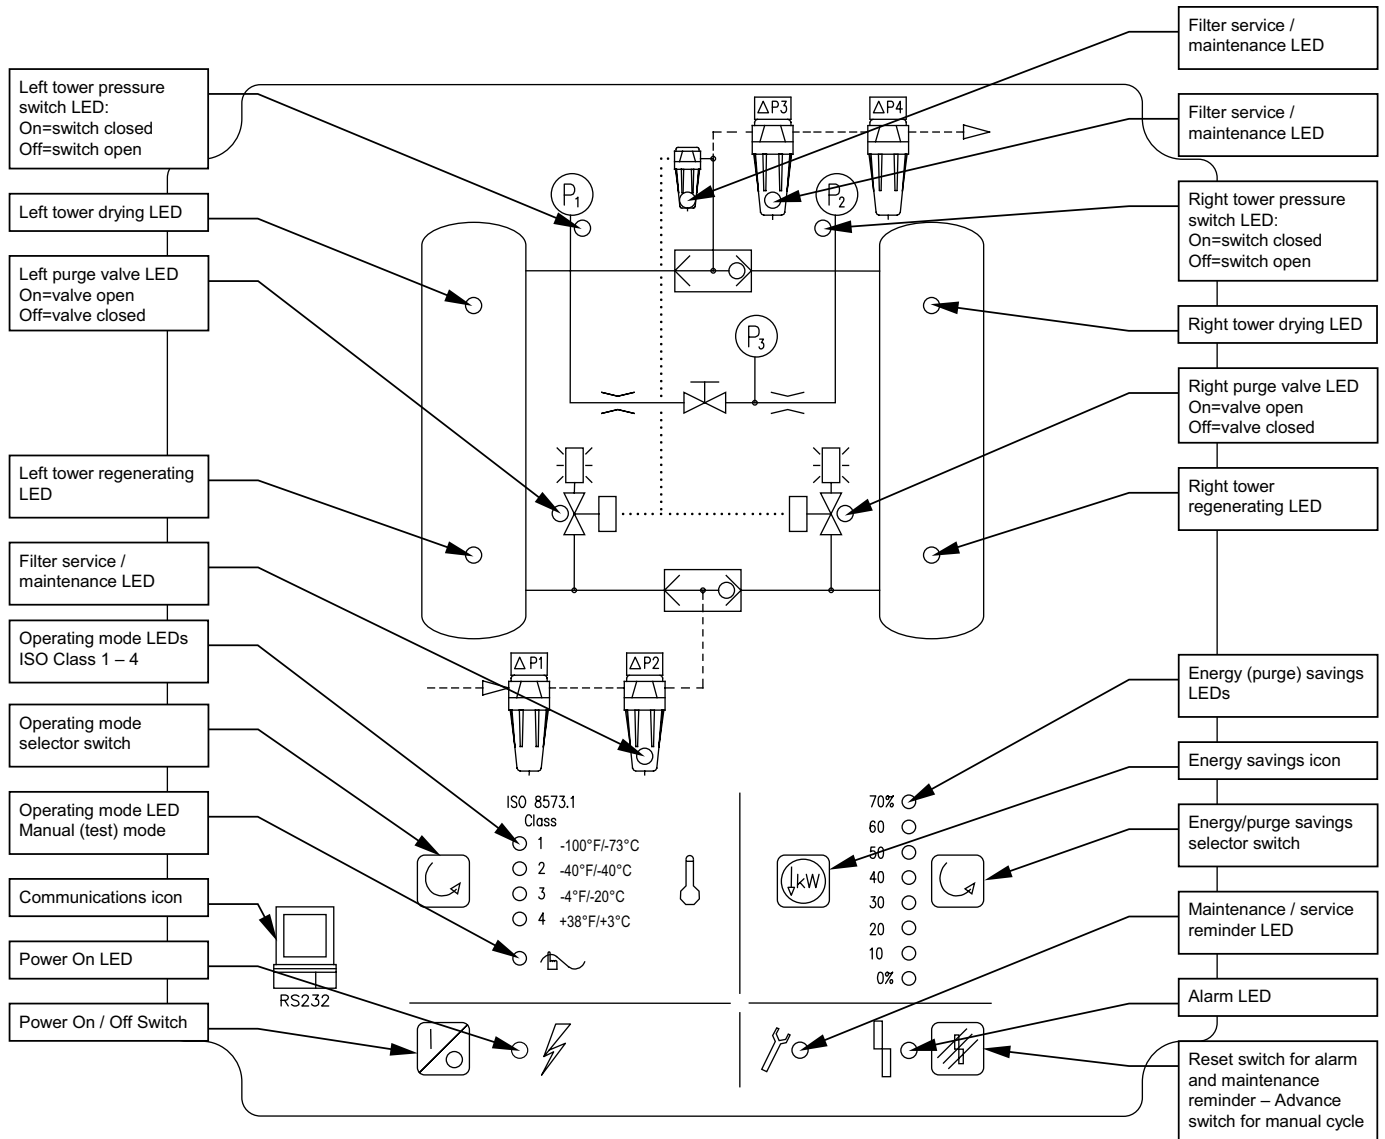

Figure 7-1
- Figure 7-1, Front Panel Overlay – Level 1 Controller
The front panel contains four momentary-contact push button switches. Refer to Figure 7-1, Front panel Overlay – Level 1 Controller for the appropriate icon associated with each switch. Pushing on the overlay icon actuates the switch. Switching can be affected remotely by wiring external push-buttons to the J2 terminals located on the rear of the display board. Refer to Section 7.2.4.